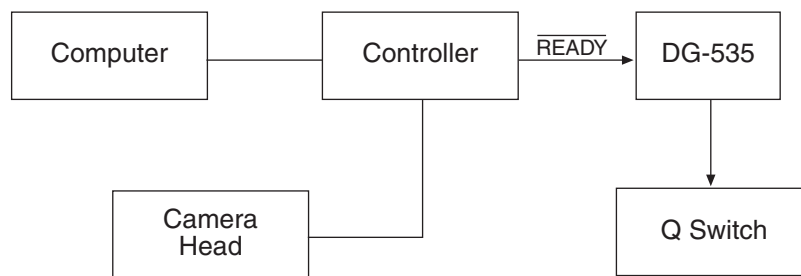
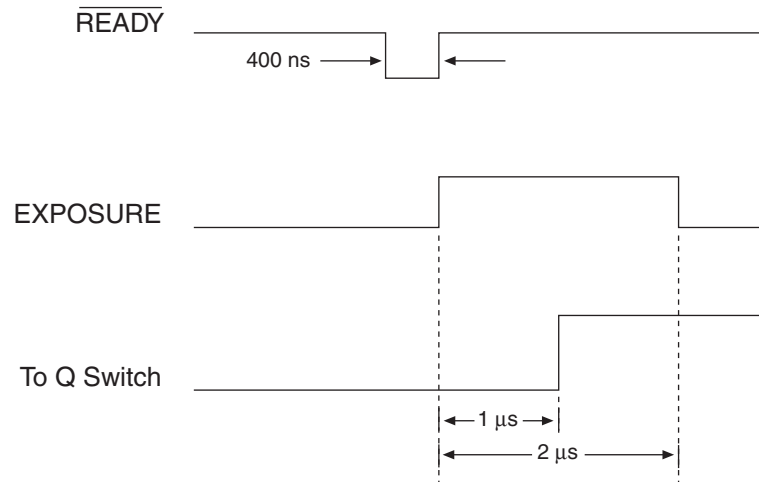

Figure 50. Setup using  $\overline{\text{READY}}$  to Trigger an Event
Figure 51. Timing for Experiment Setup shown in Figure 50
**Example:** Figure 50 shows an experiment where the rising edge of the  $\overline{\text{READY}}$  signal is used to trigger a DG-535 Delay Generator, which provides the required delay and triggers a laser source, Q switch, or other device.
Figure 51 illustrates the timing for a typical experiment like that shown in Figure 50.